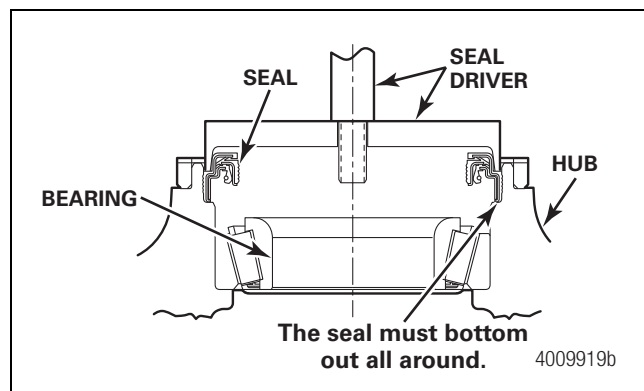

Figure 1
2. Apply lubricant to the inner diameter (ID) and outer diameter (OD) of the seal.
4. Install the wheel seal into the hub using the correct Meritor hub seal driver. It is important that the seal bottoms out evenly in the bore. Figure 1.